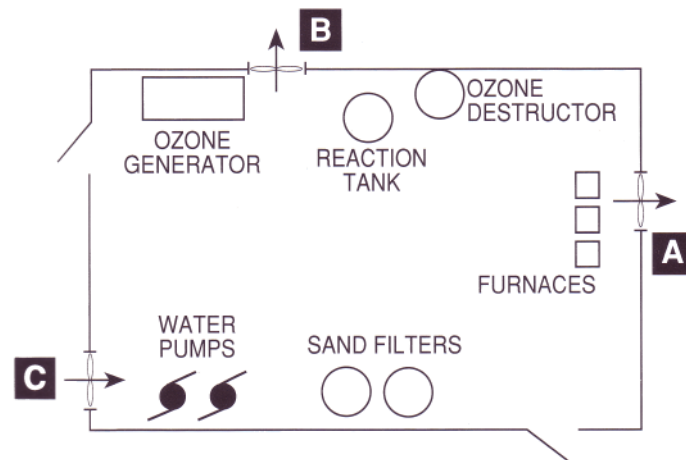

FIGURE 4—Two-stage ventilation system (Ozone room)
- A two-stage ventilation system that uses a general and an emergency system (see Figure 4). Under normal conditions, the general system should provide at least three air changes per hour. In the event of an ozone leak, the emergency system should provide at least 30 air changes per hour. An ozone monitor in the ozone room must automatically activate the emergency system when the ozone concentration exceeds 0.05 ppm.
However, if the ozone room uses a two-stage ventilation system and there is other operating equipment in the room, the intake for the emergency ventilation system must be located behind the reaction tank and the destructor unit (see Figure 4).